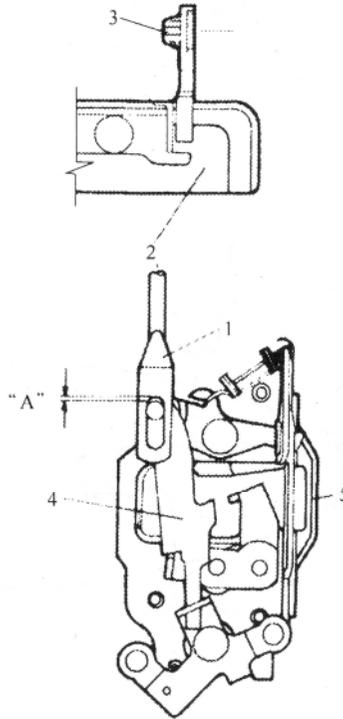

Fig.18-41
(1) When fix the rod 1 to outer handle“2” ,be sure to $A=1.4\pm 2.5\text{mm}$ (see figure18-41)